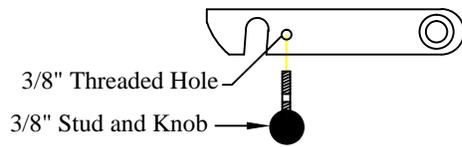

Figure 13: Original Series platform latch knob.
1. **Install** the two (2) knobs on the platform latches (Original Series only) see (Figure 13).